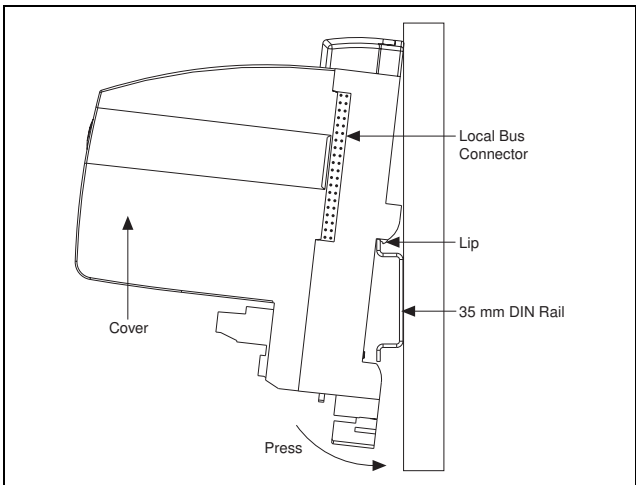

Figure 2. Mounting the FP-3000 onto a DIN Rail
- a. Hook the lip on the rear of the FP-3000 onto the top of a 35 mm DIN rail and press the FP-3000 down onto the DIN rail, as shown in Figure 2.